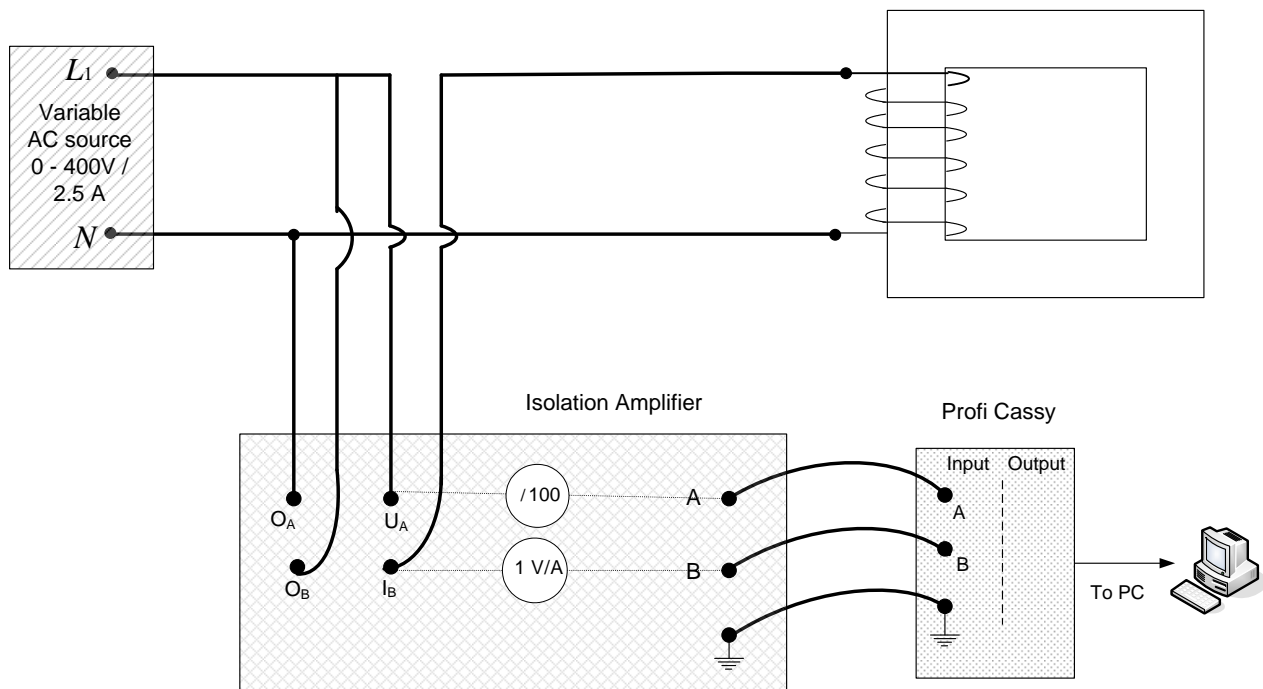

Fig. 2: Wiring diagram for magnetic circuit measurements
3. Connect the circuit as shown in the wiring diagram of Fig. 2.